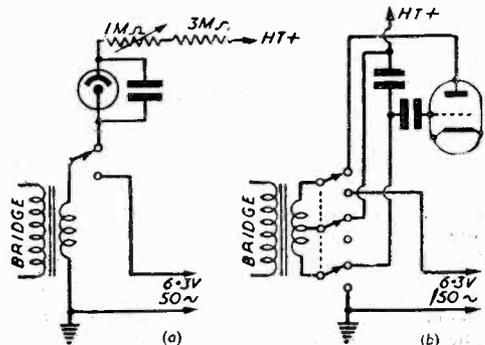

Fig. 2.—Connections for various types of oscillators.
*Answer.*—The connections depend on what oscillator or combination of oscillators is to be used. If 50 c/s excitation alone is desired connect the primary of the bridge transformer across the heater sockets of a valve-holder one of which is already earthed. In the neon oscillator shown in the original Fig. 3a, one end of the primary is also earthed, so if this is to be used as an alternative to 50 c/s, the two terminals of the 2-way switch must be connected respectively to the non-earthed socket of a valve-holder and to the junction of the neon and the 0.002  $\mu$ F condenser at the opposite side from the 1 megohm variable resistor. Since with the valve oscillator of Fig. 3b, the primary is not earthed, a 3-pole, 2-way switch is required to alternate 50 c/s and the valve-generated oscillation. The accompanying diagram Figs. 2 (a) and (b) shows the necessary connections.